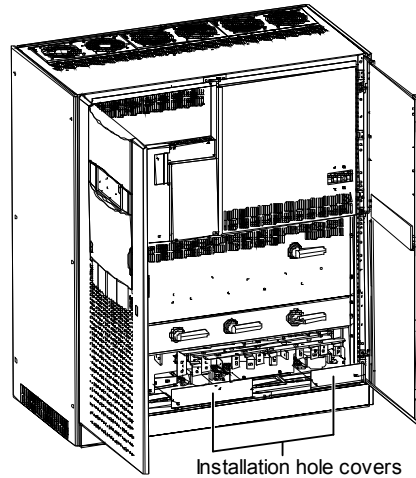

Figure 7 Removing the installation hole covers
1. Open the front door of the main cabinet, remove the lower switch baffle plate and the installation hole covers, as shown in Figure 7. Retain the screws.